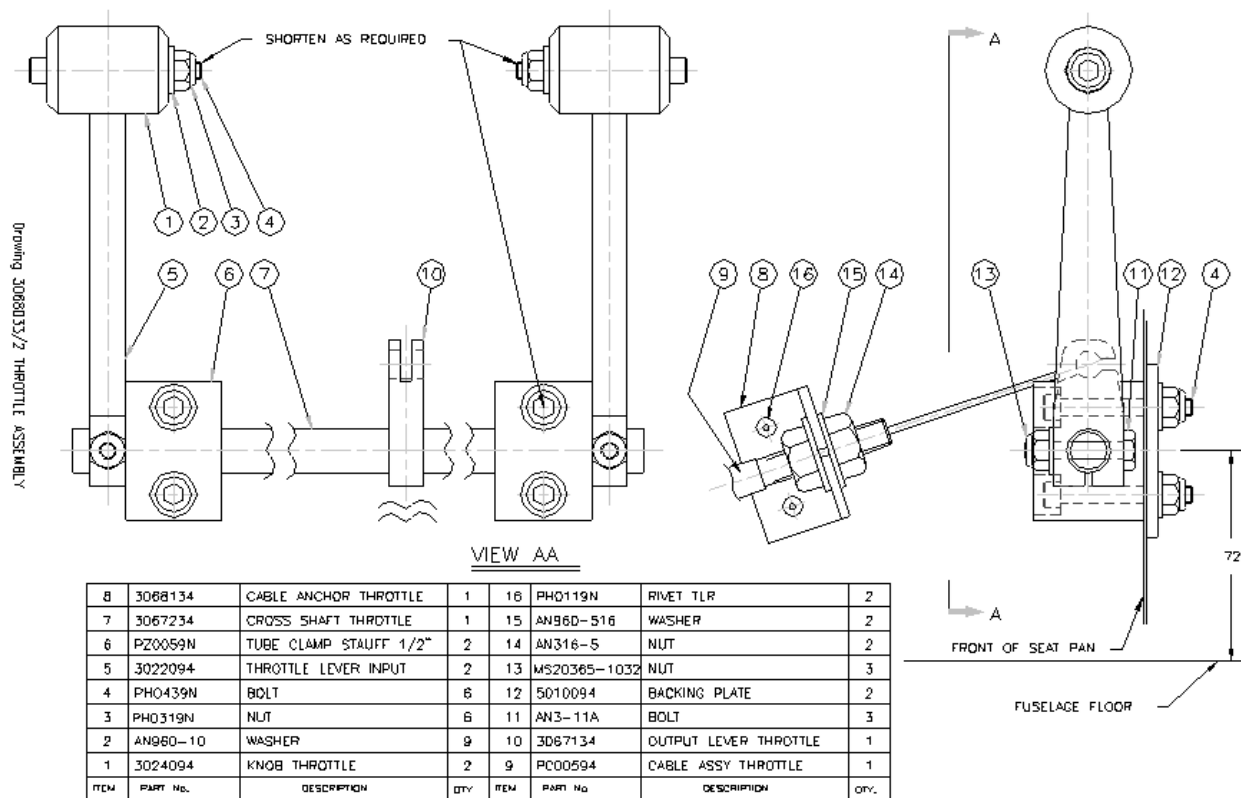
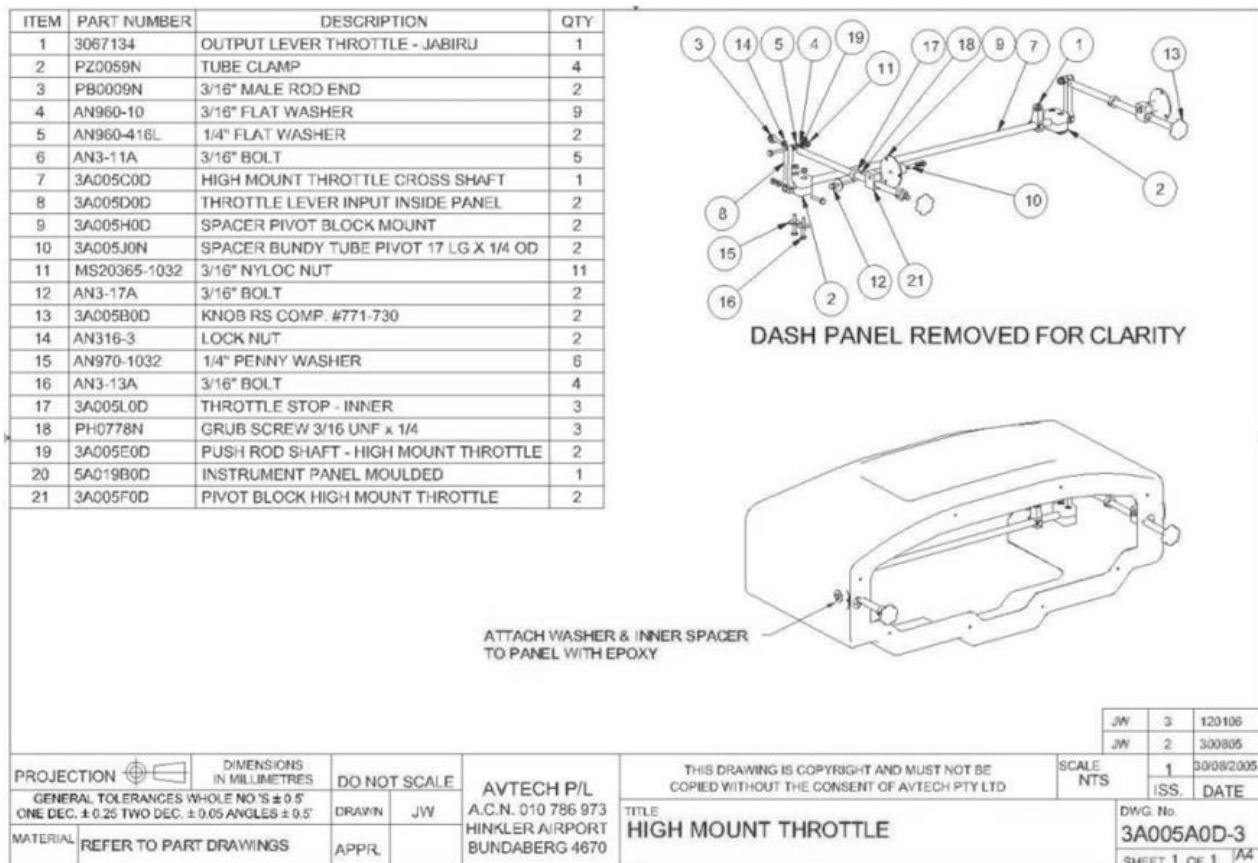

Figure 155 – Throttle Assy (Seat Mounted) (all J-Series)
Figure 156 – Throttle Assy (Panel Mounted) (all J-Series)
- While most aircraft use a throttle control mounted on the instrument panel some are equipped with a throttle fitted to the front of the crew seat (Figure 155 and Figure 156)